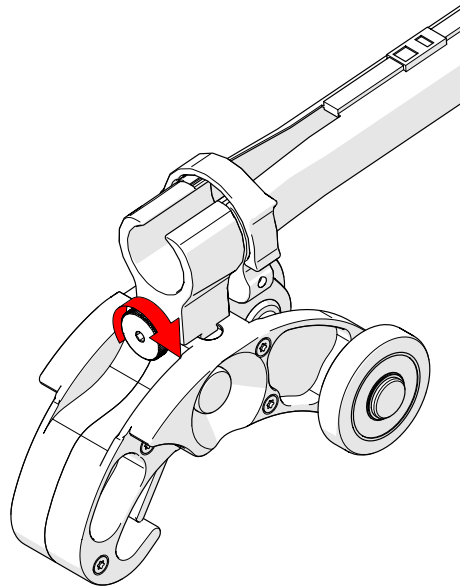

Fig. 149 - Tighten knob
2. Once centred on the heavy duty dovetail QuickLink, tighten the cable management's dovetail mount knob (*Fig. 149*).